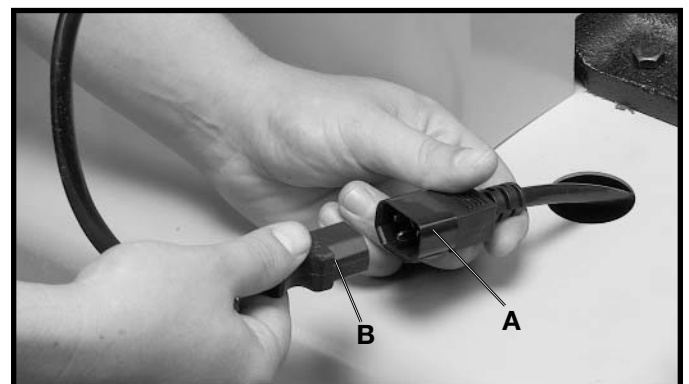

Fig. 18A
Insert the pronged motor plug (A) Fig. 18A, into the receptacle (B) of switch-to-motor cord.